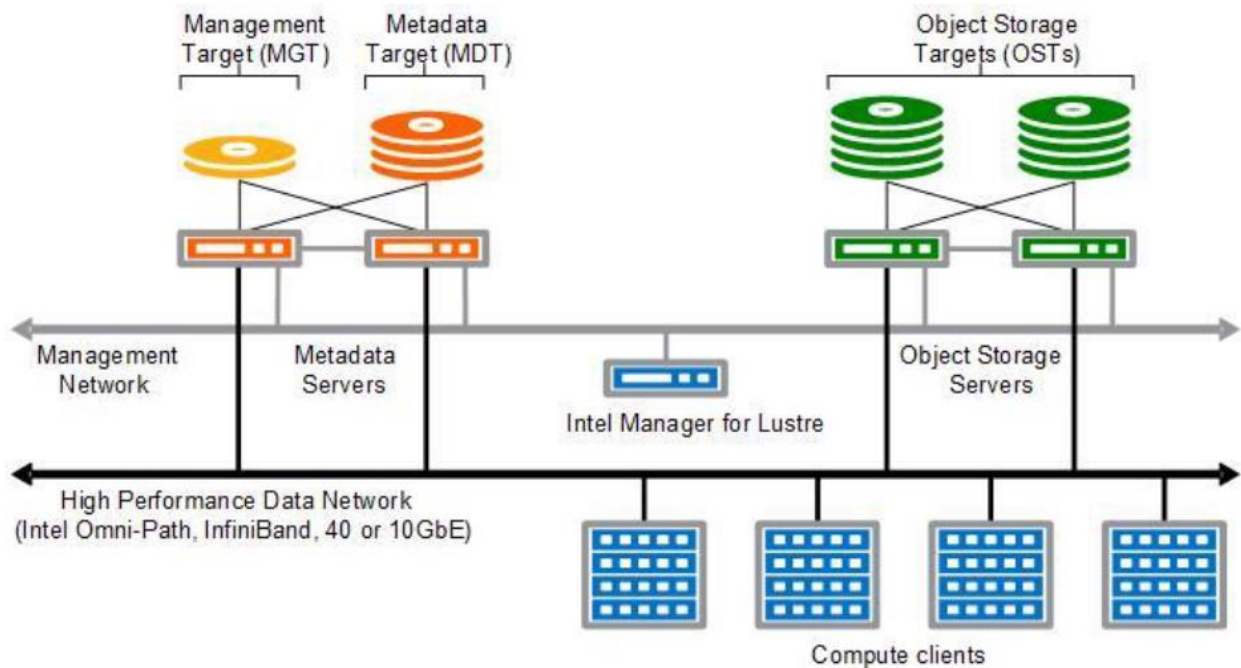

Figure 3: Lustre-based storage solution components
Dell EMC Ready Bundle for HPC Lustre Storage The Dell EMC Ready Bundle for HPC Lustre Storage, referred to as Dell EMC HPC Lustre Storage, is designed for academic and industry users who need to deploy a fully-supported, easy-to-use, high-throughput, scale-out and cost-effective parallel file system storage solution. The solution uses the Intel® Enterprise Edition (EE) for Lustre® software v.3.0. It is a scale-out storage solution appliance capable of providing a high performance and high availability storage system. Utilizing an intelligent, extensive and intuitive management interface, the Intel Manager for Lustre (IML), the solution greatly simplifies deploying, managing and monitoring all of the hardware and storage system components. It is easy to scale in capacity, performance or both, thereby providing a convenient path to grow in the future. Figure 3 shows the relationship of the MDS, MDT, MGS, OSS and OST components of a typical Lustre configuration. Clients in the figure are the HPC cluster's compute nodes. The solution is 120 drive system configuration (60 drives per PowerVault MD3460) with 12 OSTs. Each OST consists of 10x 4TB drives. Total raw storage size is 480TB.